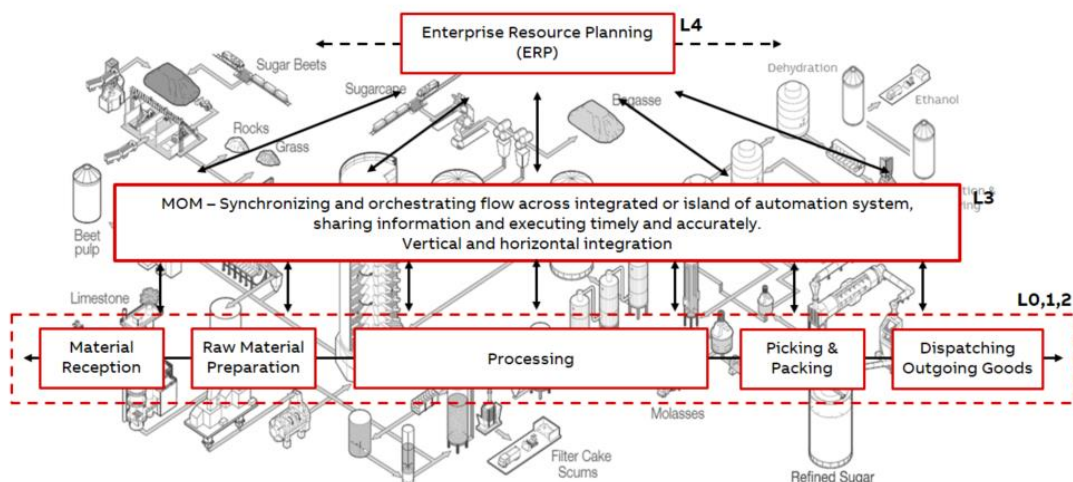

Figure 3: Data exchange between products and solutions in the sugar industry
Figure 3, shows a practical example of how the ISA-95 model described above can be applied to the sugar industry. Real time data are exchanged between Level 0 and Level 1. Process data are transferred for monitoring and control by Level 2 (represented by material reception to dispatching outgoing goods). Meanwhile, Level 3 (represented by MES and MOM) organizes and analyses the data, and presents it in a format that is easier to make business decisions. Here the operational technology (OT) and information technology (IT) data have been integrated. The data share between Level 3 and Level 4 (represented by ERP) is typically resources (personnel, equipment and material), production capability (what is available to use), product definition (how to make a product), production schedule (what to make and use) and production performance (what was made and used). Level 4 shares this OT/IT for horizontal integrations.